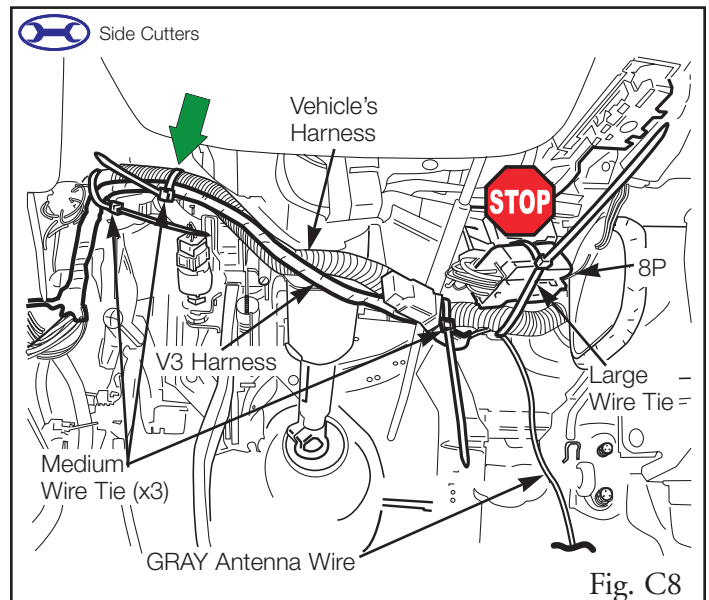

Fig. C8
10. Plug in the V3 harness' 8P connectors between the vehicle harness' 8P connector and the ignition switch. (Fig. C8)
11. Secure the 8P connectors and the V3 harness to the vehicle's harness. (Fig. C8)